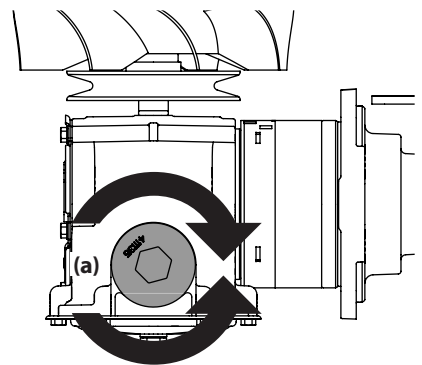

Figure 41
2. Place a suitable container under the drain plug (a) on the transmission. Remove the drain plug (a) and allow the transmission oil to drain. See Figure 41.